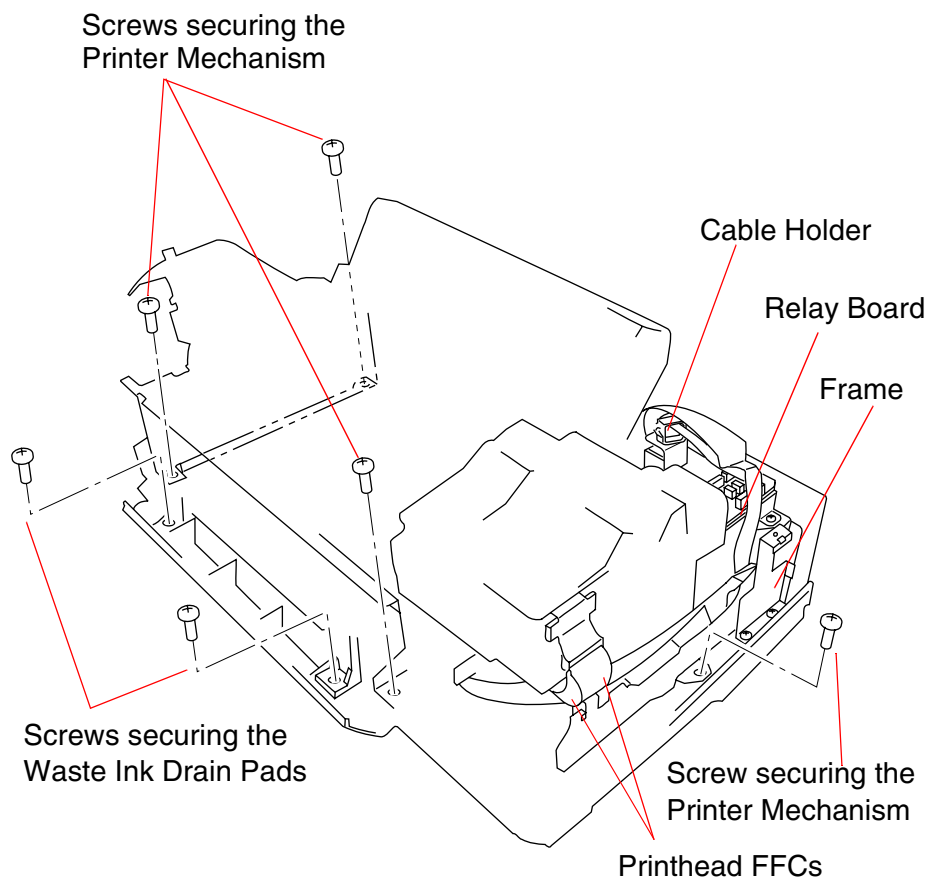

Figure 4-4. Printer Mechanism Removal
7. Remove one screw securing the frame to the shield plate on the C380 Main board and another two screws securing the frame to the lower case then remove the frame. (See Figure 4-4)